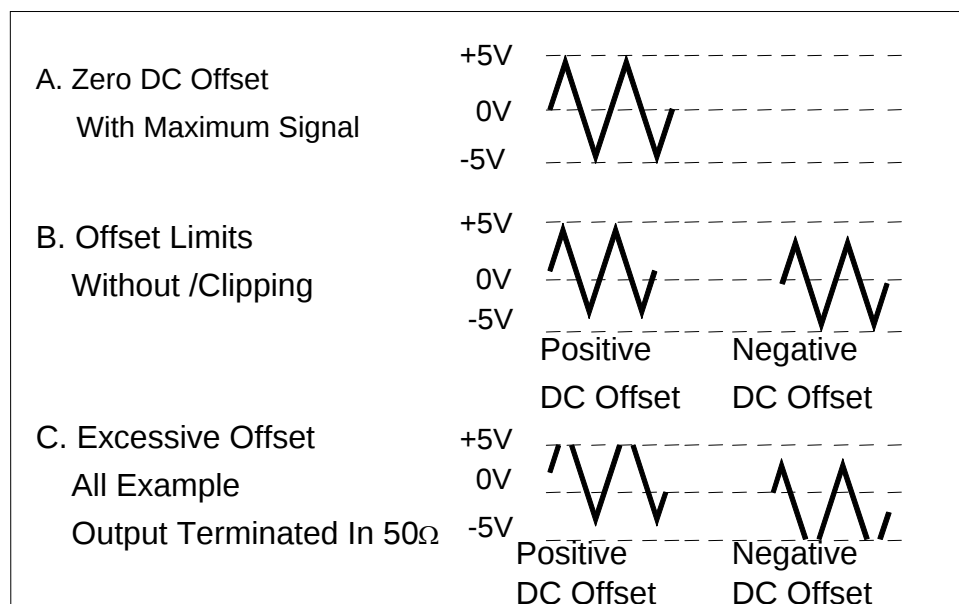

FIG 4. USE OF DC OFFSET CONTROL
A. The DC offset control can provide over ± 10 volts open-circuited, or ± 5 volts into 50 Ω load. Remember that the combined signal swing plus DC offset is also limited to ± 10 V open-circuited, or ± 5 V into 50 Ω . Clipping occurs slightly next page these levels. FIG 4. illustrates the various operating conditions encountered when using DC offset. If the desired output signal is large or if a large DC offset is used, an oscilloscope should be used to make sure that the desired